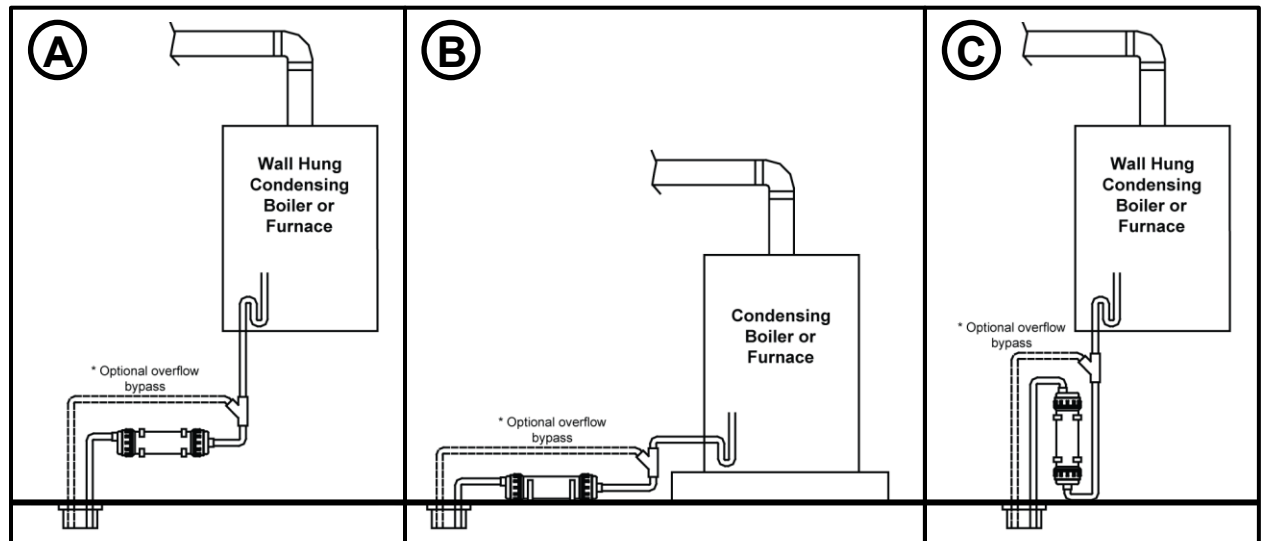

Figure 3: Condensate Drainage examples Without Condensate Pump
- 1) Neutralization kit is installed such that the inlet and discharge are at a lower elevation than the condensate drain from the appliance. See examples A, B, and C in Figure 3.
NOTE: The optional safety overflow lines indicated in Figures 3 and 4 function in the event that the drainage through the condensate neutralizer becomes clogged.